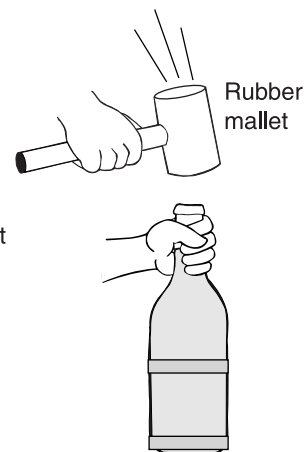

Figure 2.
3. Firmly strike the top opening of the bottle with the rubber mallet. Make sure the end of the rubber mallet strikes the opening squarely (see Figure 2). (*The bottom of the glass bottle should break and fall into the glass disposal container along with the water.*) *Caution:* If the bottom of the bottle does not “fall out” with the first blow, but the bottle's body or the lip cracks or chips—do NOT strike the bottle again. Use a new bottle.